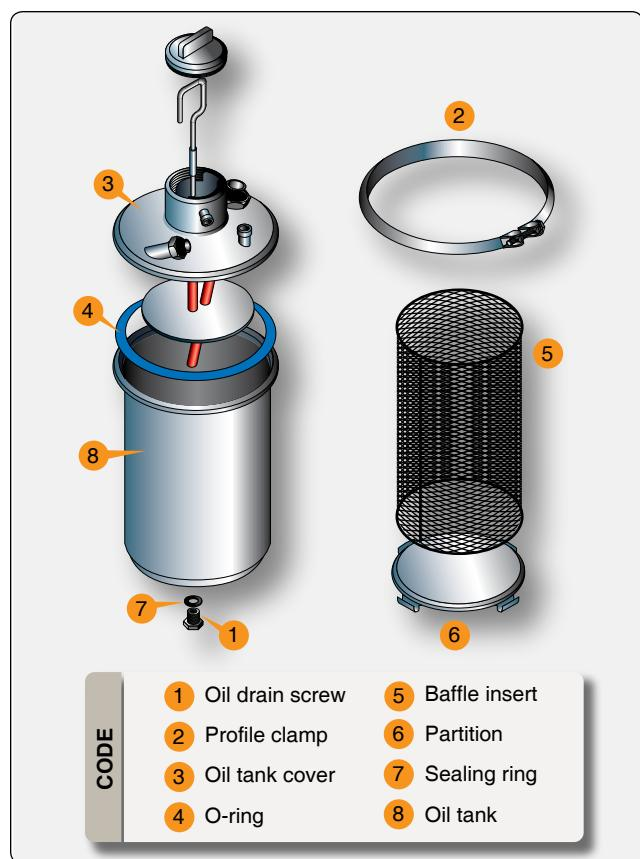

Figure 11-32. Oil tank.
It is advisable to check the oil level prior to an oil change, as it provides information about oil consumption. Run engine to warm the oil before beginning the procedure. Taking proper precautions, crank the engine by hand to transfer the oil from the crankcase. Remove the safety wire and oil drain screw (1) from the oil tank, drain the used oil, and dispose of as per environmental regulations. [Figure 11-32] Remove and replace oil filter at each oil change. It is not necessary to remove oil lines and other oil connections. Draining the suction lines, oil cooler, and return line is not necessary and must be avoided, as it results in air entering the oil system. Replacement of the oil filter and the oil change should be accomplished quickly and without interruption to prevent a draining of the oil system and the hydraulic tappets. Compressed air must not be used to blow through
Cleaning the oil is optional and requires venting of the oil system. It is only necessary to clean the oil tank and the inner parts if there is heavy oil contamination. The procedure for cleaning the oil tank is shown in *Figure 11-32*. Detach the profile clamp (2) and remove the oil tank cover (3), together with the O-ring (4) and the oil lines. Remove the inner parts of the oil tank, such as the baffle insert (5) and the partition (6). Clean oil tank (8) and inner parts (5, 6), and check for damage. Be aware that incorrect assembly of the oil tank components can cause engine faults or engine damage. Replace the drain screw with a new sealing ring (7) and tighten to 25 Newton meters (Nm) (18.5 ft/lb) and safety wire. Reassemble the oil tank by following the same steps in reverse order.